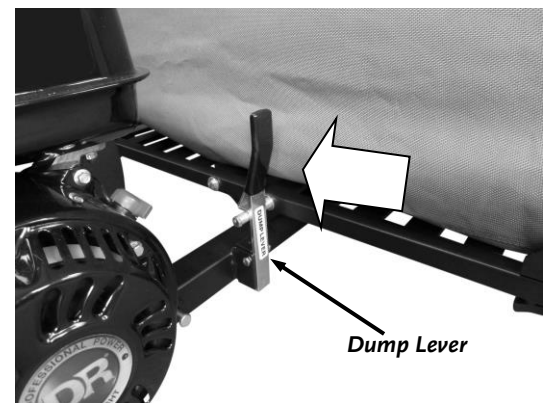
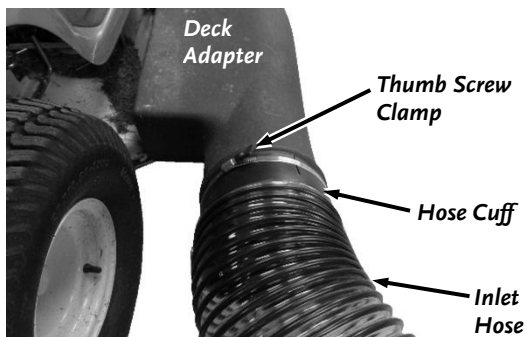
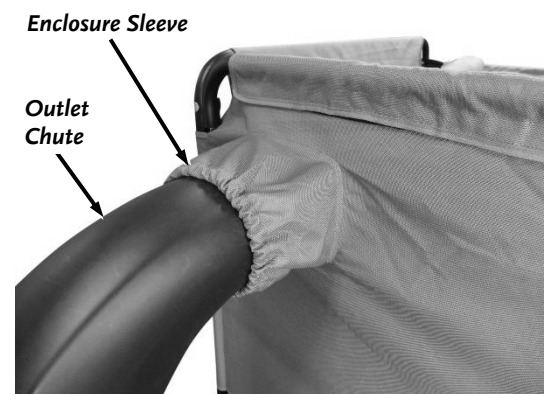

Figure 67
Figure 69
Figure 68
2. Make sure the Collector Base is on the Frame with the Dump Lever locked over the Latch Pin (Figure 67), the Enclosure Sleeve is over the Outlet Chute (Figure 68), and the Inlet Hose Cuff is securely attached to the Deck Adapter on your Tractor (Figure 69).